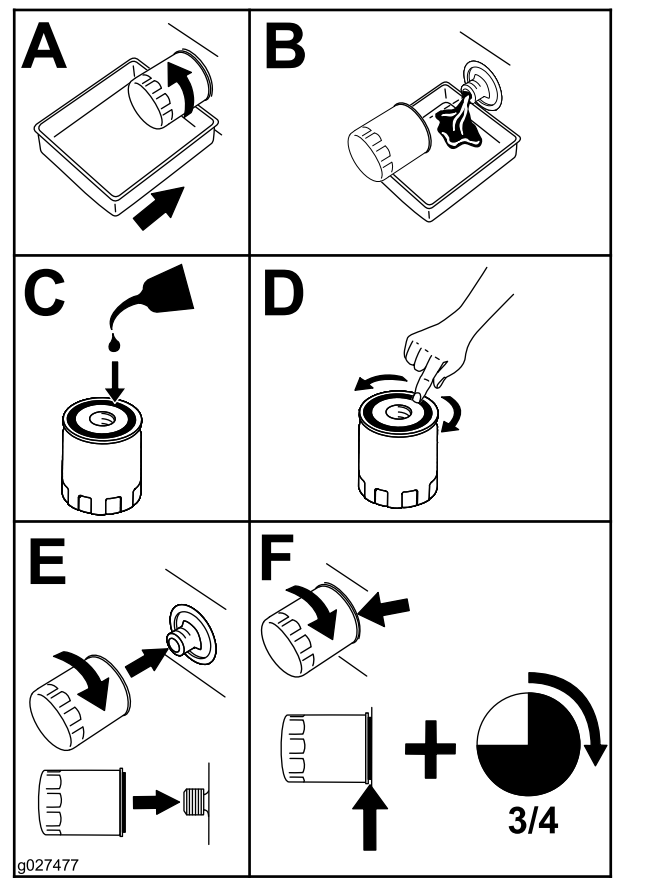

Figure 43
5. Replace the engine-oil filter as shown in Figure 43.